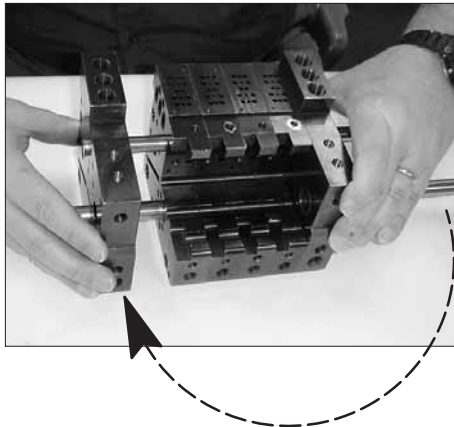

Figure 7-63 Moving the left-end slice
6. See Figure 7-63. Remove the alignment pins and the left-end slice from the assembly. Reinsert the alignment pins and move the left-end slice over the last installed inner slice. Install the right-end slice after the last inner slice has been placed.